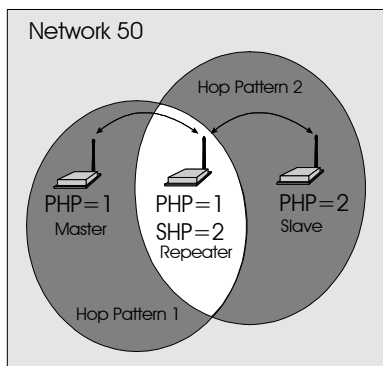
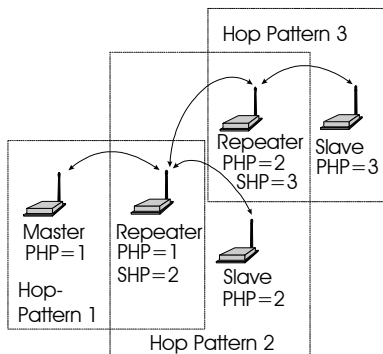

Figure 3 - Repeater Operation
Figure 4 - A Network Utilizing Three Hopping Patterns
4) Repeater. A more precise title would be Repeater/Slave, because a Repeater also has much of the same functionality as a Slave. A terminal can be connected at the Repeater location and communicate with the Master terminal. There is no restriction to the number of Repeaters in a network, allowing for communication over virtually limitless distances. The presence of one Repeater in a network automatically degrades system throughput by half. Additional Repeaters, regardless of the quantity, do not diminish system throughput any further. To understand Repeater operation, consider the module as belonging to two hopping patterns at the same time: The Primary Hopping Pattern and the Secondary Hopping Pattern. In Figure 3, the Master belongs to Hopping Pattern 1, and communicates with the Repeater on this hopping pattern. The Slave belongs to Hopping Pattern 2, and communicates with the Repeater on this hopping pattern. The whole system belongs to Network 50 (i.e., all units must be assigned the same Network Address (S104), which in this case was selected to be 50. Note that Slaves and Master only communicate on their respective Primary Hopping Pattern. Repeaters communicate on the Primary Hopping Pattern when communicating with the Master (or with another Repeater between itself and the Master). Repeaters communicate on their Secondary Hopping Pattern when communicating with Slaves (or with another Repeater between itself and the Slaves). Figure 4 shows another example.